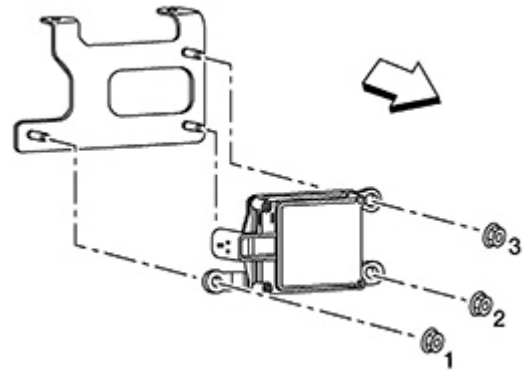

Figure 2
2. Install the new Distance Sensor and torque the nuts in the pattern shown in Figure 2.